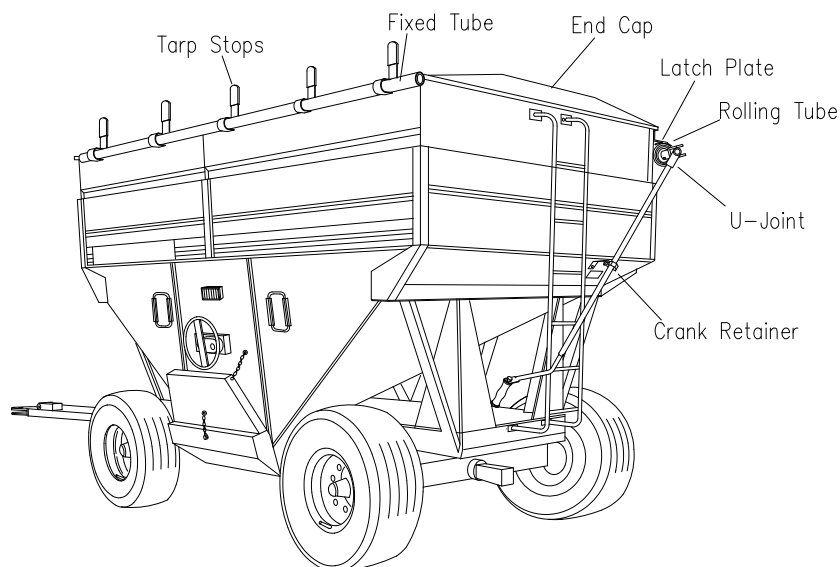

FIG. 2-1
1. Center mounting bezel in molded fender relief. Once located, use mounting bezel as a template and drill two 3/16" diameter mounting holes thru fender. See figure 2-1.